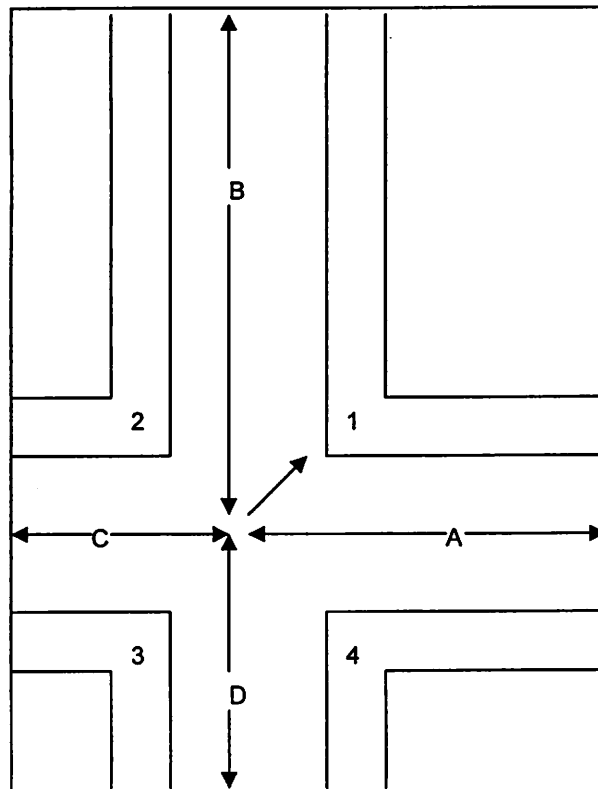

Figure 6.14
3. If the source-to-test stand film distance is not known, measure the actual distance from the graduated template position to the test stand film plane (distance Z, see Fig. 6.14).